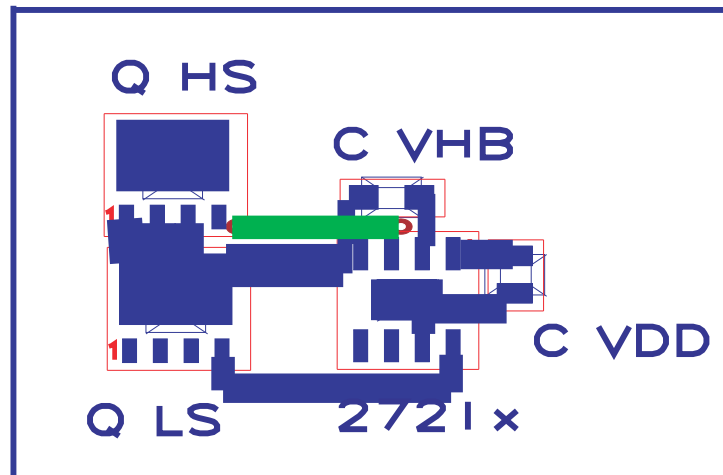

Figure 9-1. UCC27211 Component Placement
- Locate the V_{DD} - V_{SS} and V_{HB} - V_{HS} (bootstrap) capacitors as close as possible to the device (see Figure 9-1).
- Pay close attention to the GND trace. Use the thermal pad of the DDA and DRM package as GND by connecting it to the VSS pin (GND). The GND trace from the driver goes directly to the source of the MOSFET but should not be in the high current path of the MOSFET(S) drain or source current.